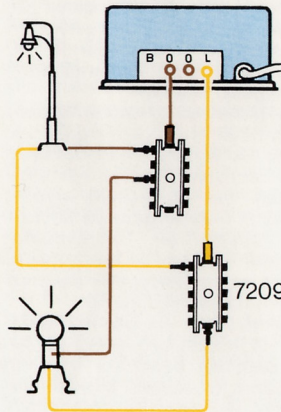

Fig. 4
5. For transformers equipped with a lamp: Does the lamp light up when the transformer is plugged into the main house current and connected to Transformers without a lamp: Does a bulb connected to sockets marked "0" and "L" light up? (see Fig. 4)	If the lamp does not light up, there can be a short circuit on the layout. Results can be: 1. A car or any other metal item may be on the track touching the rails and center contact. 2. Tracks are not connected properly. 3. Incorrect wiring to the track. If there is a short circuit on your layout, refer to part 6.